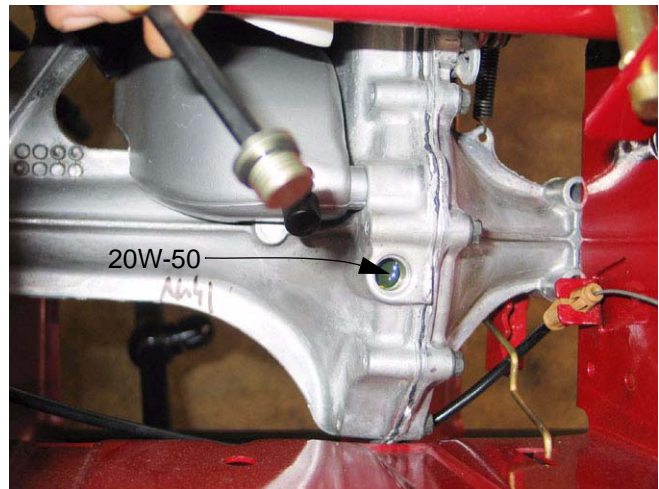

Figure 6.4
6. After a thorough cleaning, to prevent contamination of the fluid, the fill plug can be removed using a 1/4" allen wrench. See Figure 6.4.